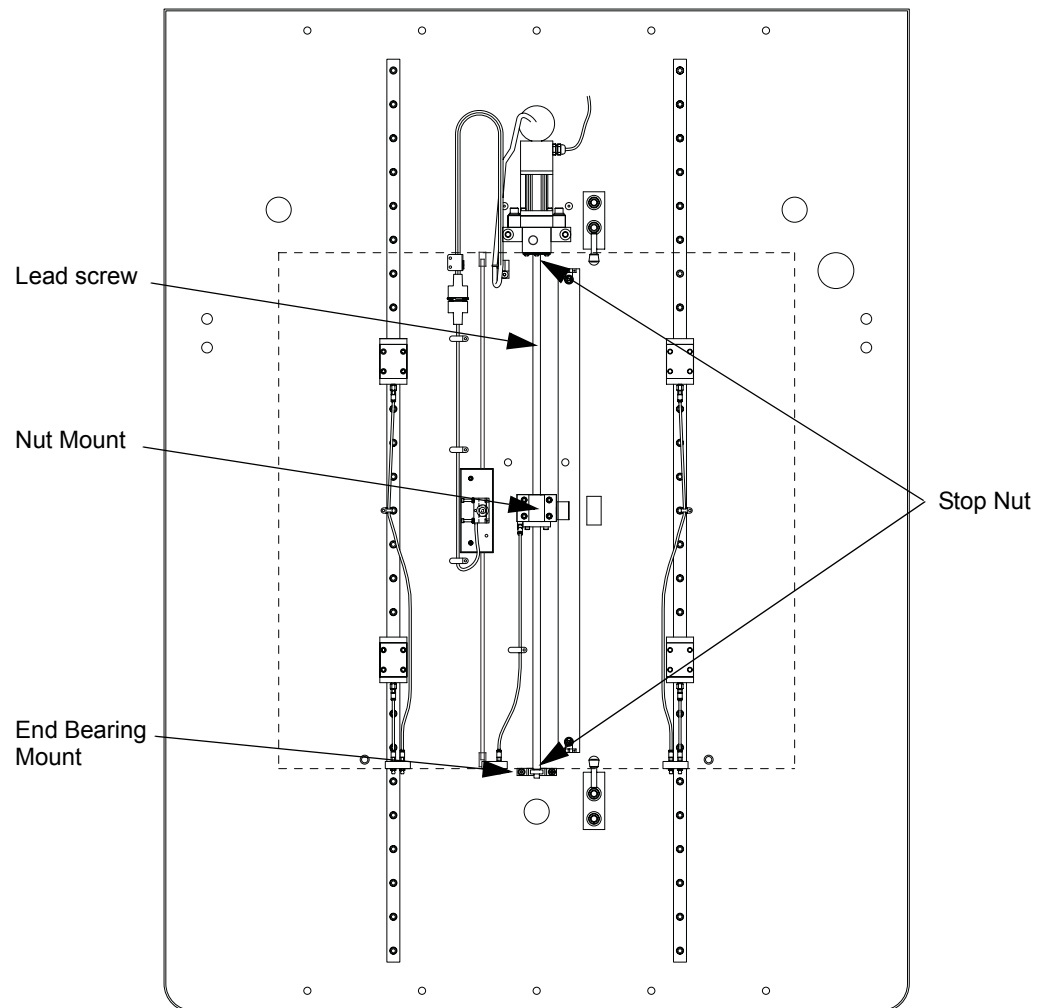

Figure 9-16 Y Stage - Top View
4. Using a 3/16-inch Allen wrench, remove the four screws that secure the nut mount block in place at the center of the Y stage; see Figure 9-16.